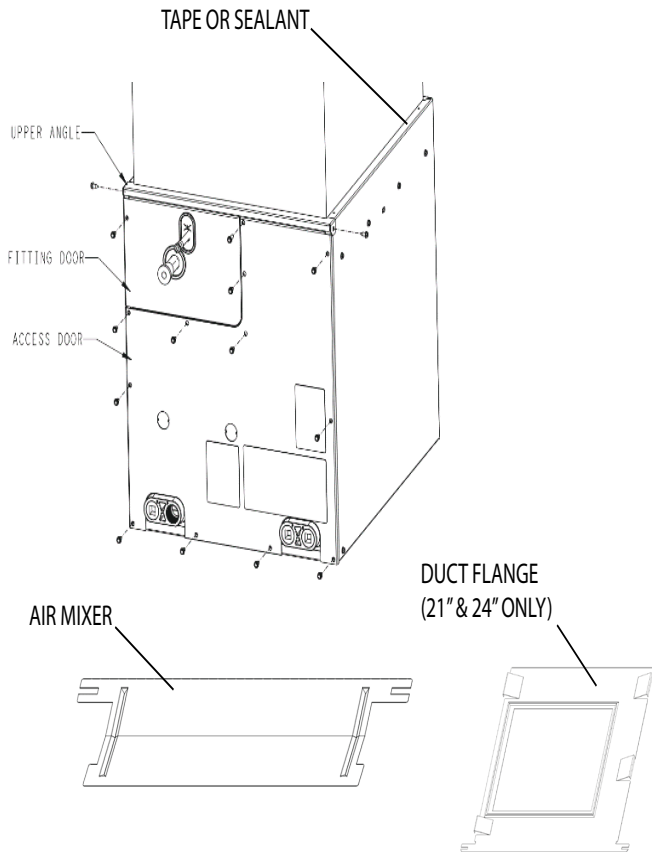

Fig. 1 – Screw Locations
- a. For 14" - 17" Air Mixer — Remove tape/sealant and/or screws connecting supply duct to the front of the unit and front 5" of the sides. (Fig. 1)
- b. For 21" - 24" Air Mixer — Remove tape/sealant and/or screws connecting supply duct to the front of the unit and all screws from the duct flange into the top of the cabinet need to be removed if used. (Fig. 1)
3. Remove all door screws. (Fig. 1)
4. Remove both upper angle screws. (Fig. 1)
14. Screw in the upper angle screws. (Fig. 1)